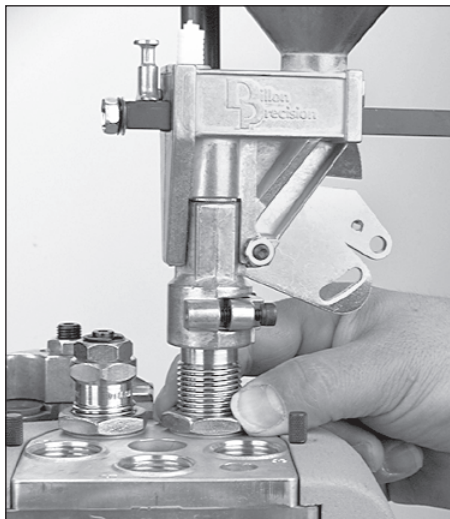

FIG 96
6. Once the powder bar is traveling its full distance – with the case in Station 2 – raise the platform. Run the locking down hand tight FIG 96.